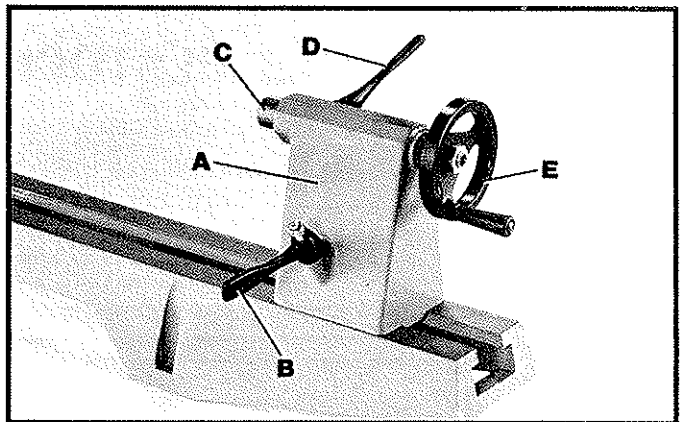
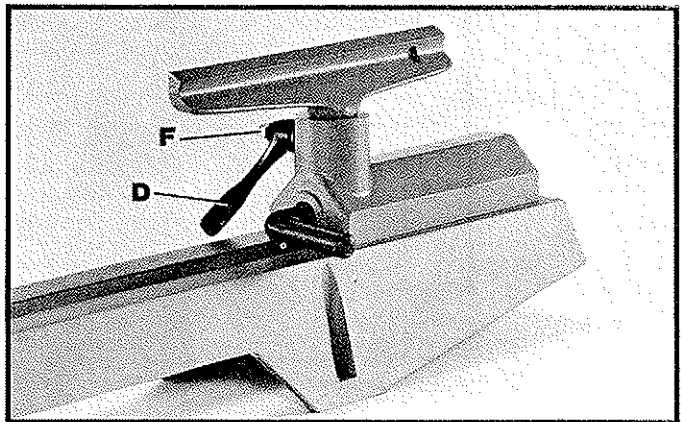

Fig. 22
Fig. 23
The tailstock (A) Fig. 22, can be moved lengthwise along the lathe bed by loosening locking lever (B), sliding tailstock (A) to the desired position on the bed, and tightening lever (B).
The tailstock spindle (C) Fig. 22, moves in or out of the tailstock body by loosening locking lever (D) and turning handwheel (E). Total movement of the tailstock spindle (C) is two inches. The tailstock spindle is hollow the complete length of the tailstock enabling you to bore holes through turnings as shown later in this manual. **NOTE:** Locking lever (B) is spring-loaded and can be repositioned by pulling out on the handle and repositioning it on the nut located underneath the lever. Locking lever (D) Fig. 23, can be repositioned by removing nut (F) and lever (D). Reposition lever (D) on the nut located underneath lever (D) and replace nut (F).